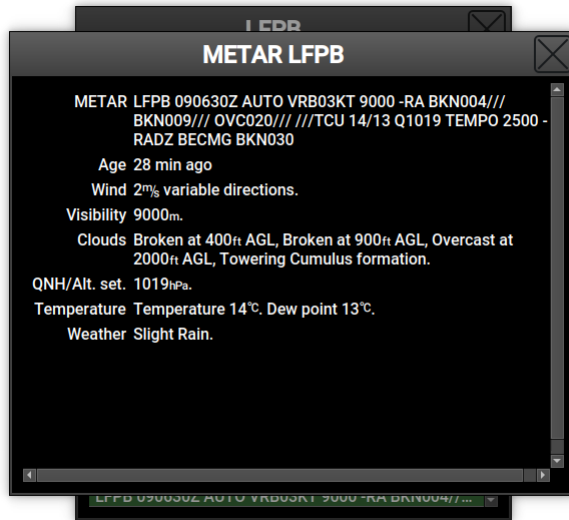

Figure 2.12: An example of interpreted METAR report.
**Weather** section is available when Aetos is connected to the Internet. METAR reports are shown. In addition, when the METAR report is selected, a new window is opened, where the METAR report is interpreted in a more friendly form. For an example, see Figure 2.12. Full METAR report is shown on the top and the interpreted part below. Note that we try to interpret as much as possible, but some parts may be too difficult to handle.